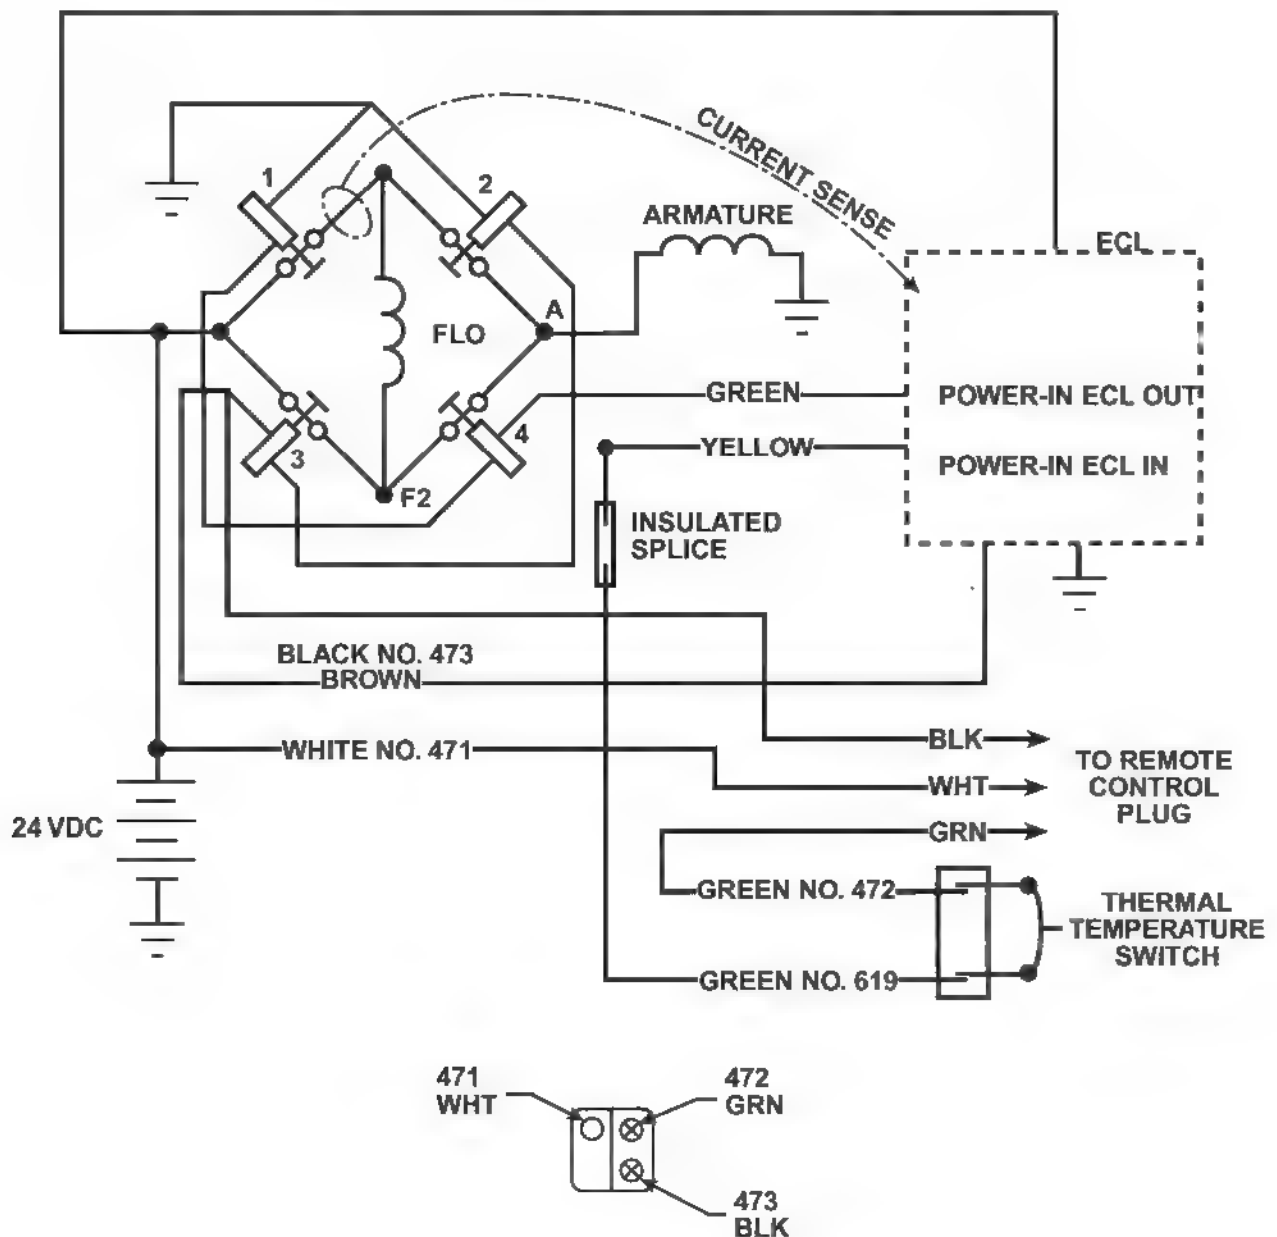

Figure 12-17 Figure 12-17.Repeat. Winch Testing.
1. To check a faulting or shorting switch, use an ohm meter and measure the resistance of the thermal switch between the wire cut in the previous step and the socket pin (#472) of the plug, which is connected to the green wire (Figure 12-17). If the butt splice and switch are good, the resistance should be less than 1 (ohm) across the switch. If the switch is open at room